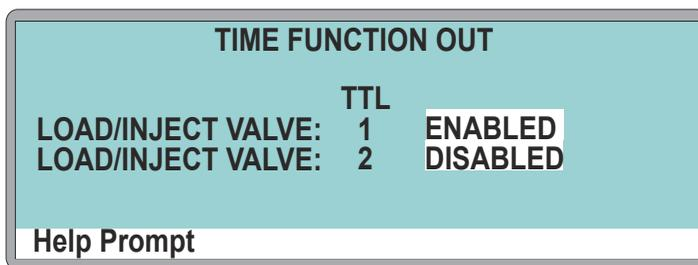

Figure 42. AS50 Time Function Out Screen
1. On the AS50 front panel, press **Menu** and **0** to go to the **TIME FUNCTION OUT** screen (see Figure 42). In the **LOAD/INJECT VALVE:** **TTL 1** field, select **ENABLED**.